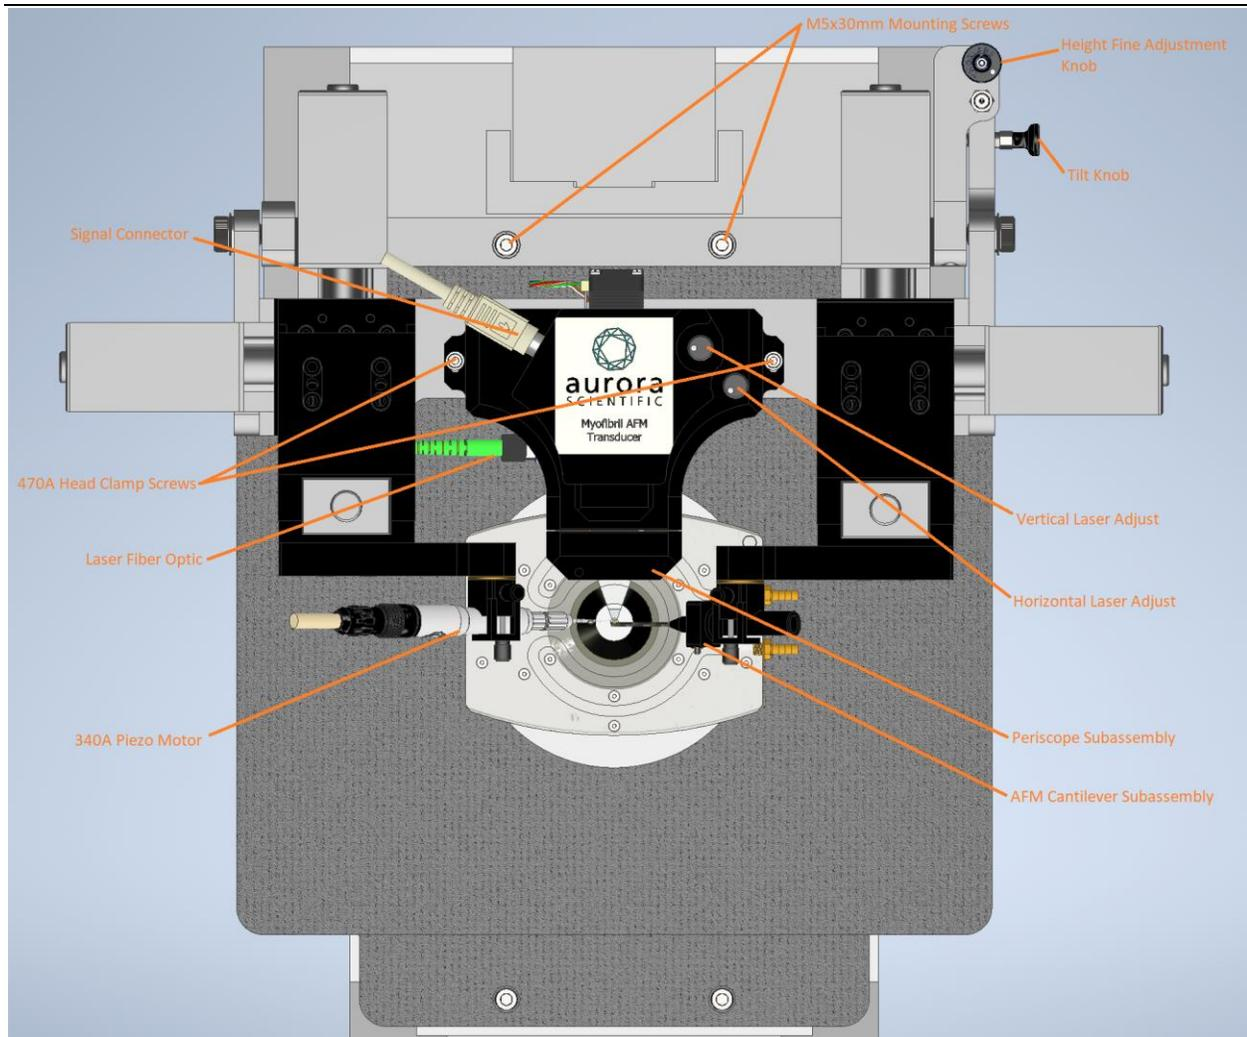

Figure 3 Top View of 470A Mounted to Microscope
5. Switch to a 10X objective and observe the end of the periscope again. The periscope should be located about 600 $\mu$ m from centre of the field of view. Use the fine adjustment screws on the front side of the microscope mounting assembly to fine position the 470A head in the field of view. To do this first loosen the clamp screws on either side of the 470A head that hold the head onto the microscope mount plate. Screw the fine adjustment screws in or out to reposition the 470A and then retighten the clamp screws, see Figure 3.